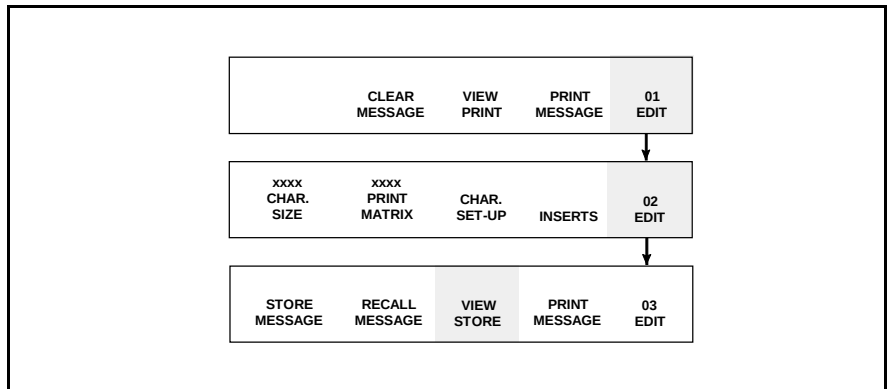

Figure 6-60. Accessing Frame <03 EDIT>
1. Begin in Frame <03 EDIT>. Refer to Figure 6-60.